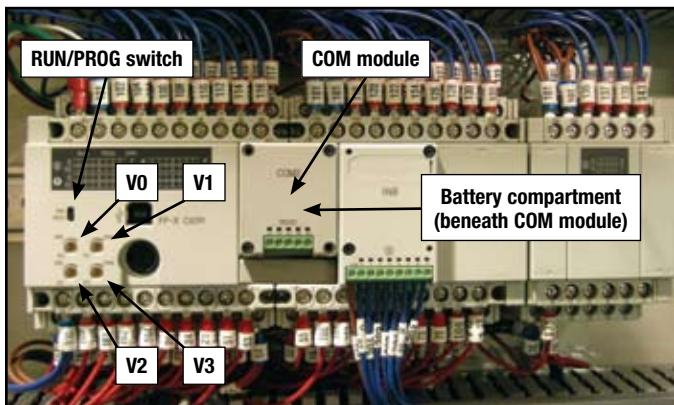
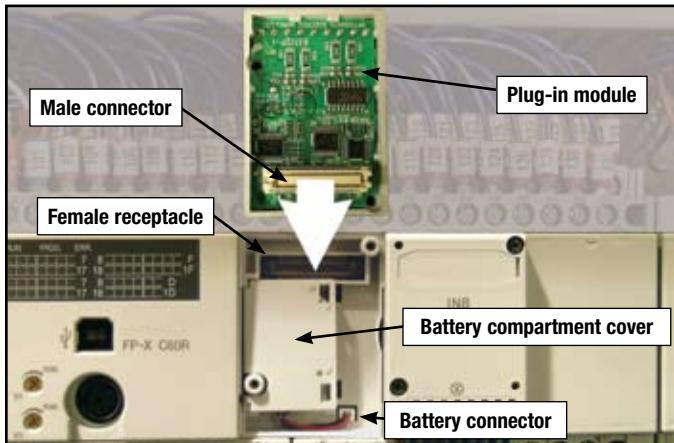
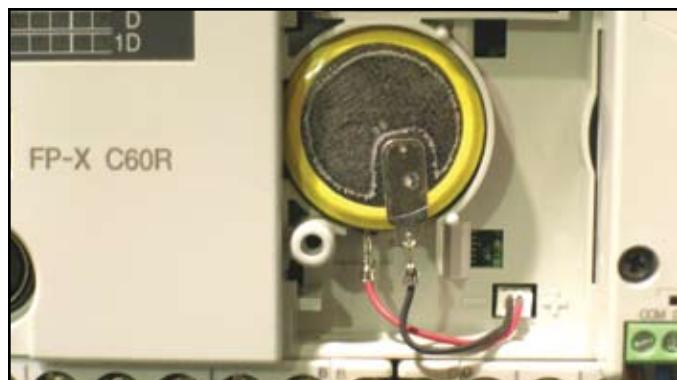

Figure 2. Key PLC components
Figure 3. Battery replacement and reprogramming the PLC.
Figure 4. Battery inserted and connected.
Adjustments to various timing functions are made by turning the control screws (*Figure 1, #V0–V3, and Figure 2, next page*) with a small Phillips screwdriver as follows:
The battery is located under the COM MODULE of the PLC (*Figure 2*). Remove the two screws holding the COM MODULE in place, then carefully pull out the module and set aside. Remove the snap-in cover over the battery compartment (*Figure 3*), then carefully disconnect the battery's plug-in connector and lift the battery out of its receptacle.
Once the battery has been installed and connected (*Figure 4*), snap the battery cover (*Figure 3*) back in place. Plug the COM MODULE back into its connector and replace the screws holding the module in place.
- 4 Insert the program module you received from A.W.T. in its place. The module contains a male connector that plugs into a female receptacle on the PLC (*Figure 3*).